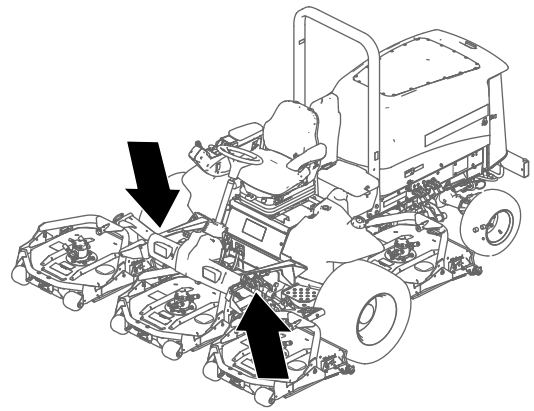
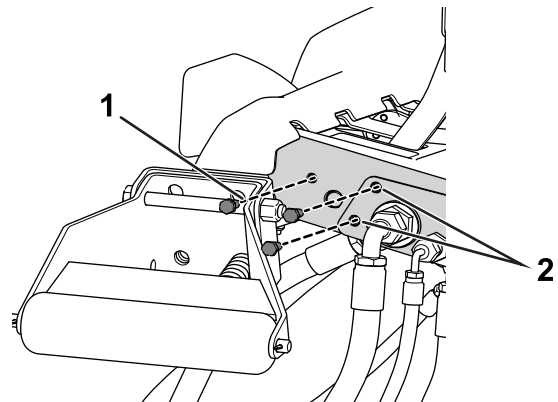
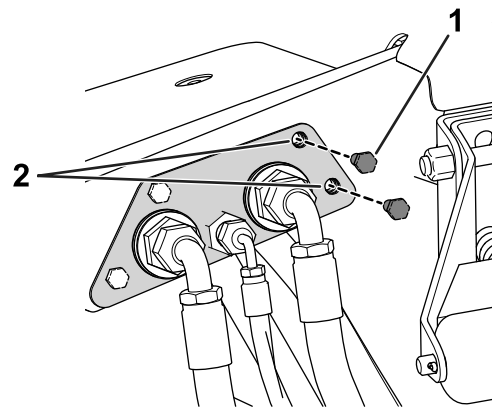

Figure 2
Figure 3
Figure 4
7. Remove the bolts from both sides of the foot frame (Figure 2) as shown in Figure 3 and Figure 4.
8. Use a drill (3/8 inch) to increase the diameter of the 2 holes on both sides of the foot frame as shown in Figure 3 and Figure 4.